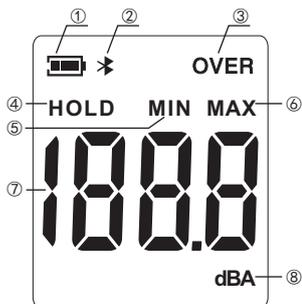

Figure3
D. LCD Display (referring to Figure 3)
- ①. Battery power prompt sign.
- ②. Bluetooth(Bluetooth version only).
- ③. OVER warning sign/reading exceeding measuring range.
- ④. Data retention.
- ⑤. Minimum value.
- ⑥. Maximum value.
- ⑦. Sound level reading value
- ⑧. Sound level unit of (A weighting)